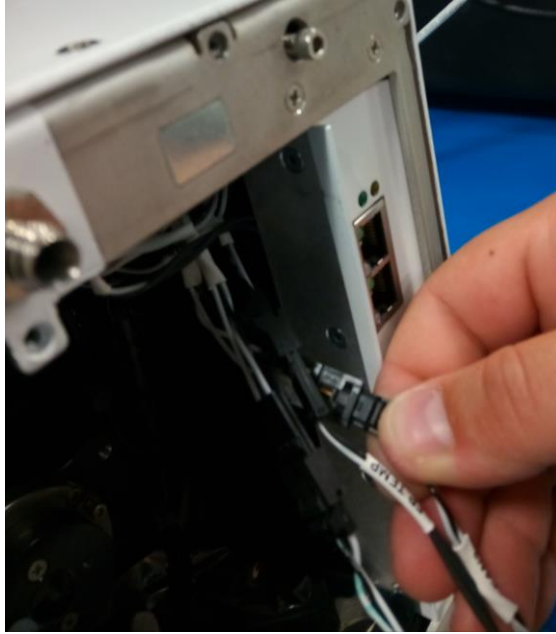

Figure 26: Front panel connections
2. Tilt the front panel away from the instrument. Locate and disconnect the connections for the front panel fan and temperature sensor (Figure 26).